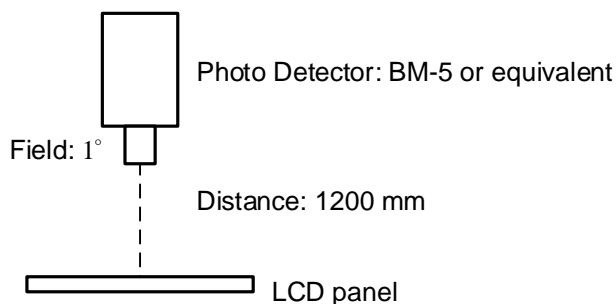

Fig 6.1
- In the dark room, the equipment has been set for the measurements as shown in Fig 6.1.